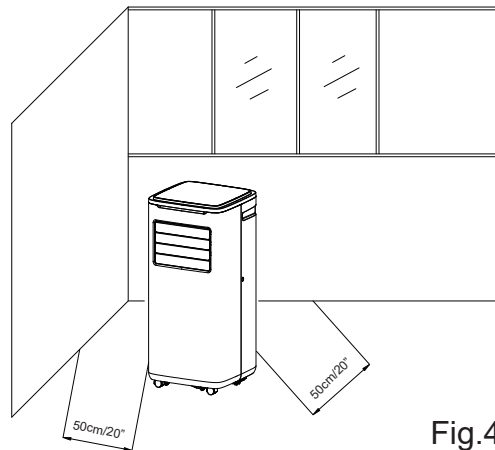

Fig.4
- 1) Move the machine with installed pipe and fittings to the window, and the distance between the body and walls or other objects shall be least 50 cm (as shown in Fig.4).